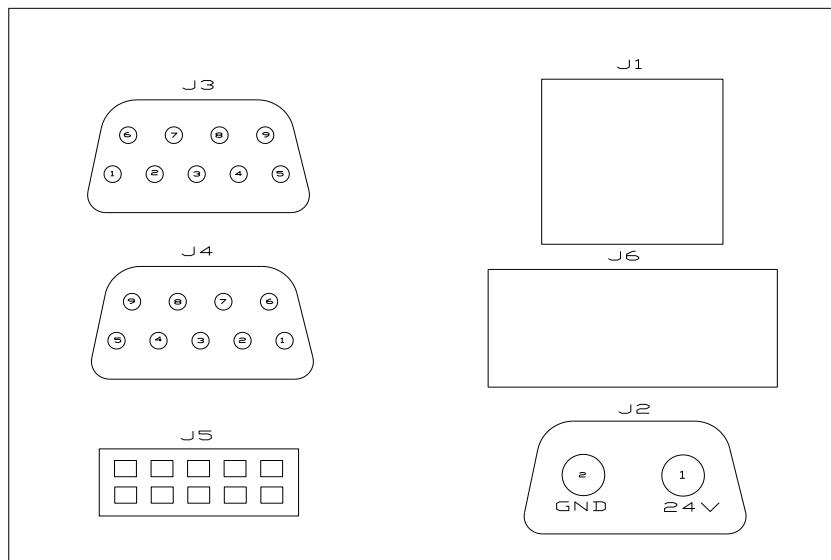

Figure 1
2. Definition of interfaces in Figure 1
- ①. J1 is an Ethernet interface and is used for the communication control between the mechanical arm and the PC host computer interface
- ②. J2 is the power input interface, with 24V DC voltage input.
③. J3 are the IO input interfaces for users, inside of which there are three sets of opt coupler isolated inputs.
④. J4 is the IO output interface, inside of which there are three sets of opt coupler Isolated NPN outputs.
⑤. J5 is the WIFI extended interface, which aims for communication control of APPs on cellphones with WIFI modules developed by our company.
⑥. J6 is power switch, turn on switch, power and light on, turn off the switch, power and light off.
3. Internal circuit design of J3 and J4 interfaces in Figure 1
①. Definition of main pin of J3 interface DB9